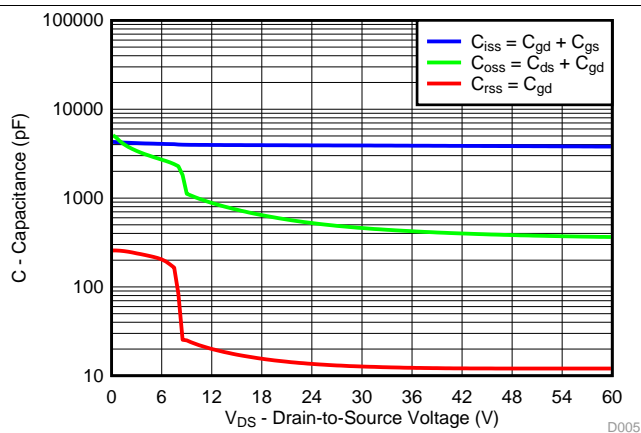

Figure 5. Capacitance
• Extended the $V_{DS}$ on <a href="#">Figure 5</a> to 60 V.....	4